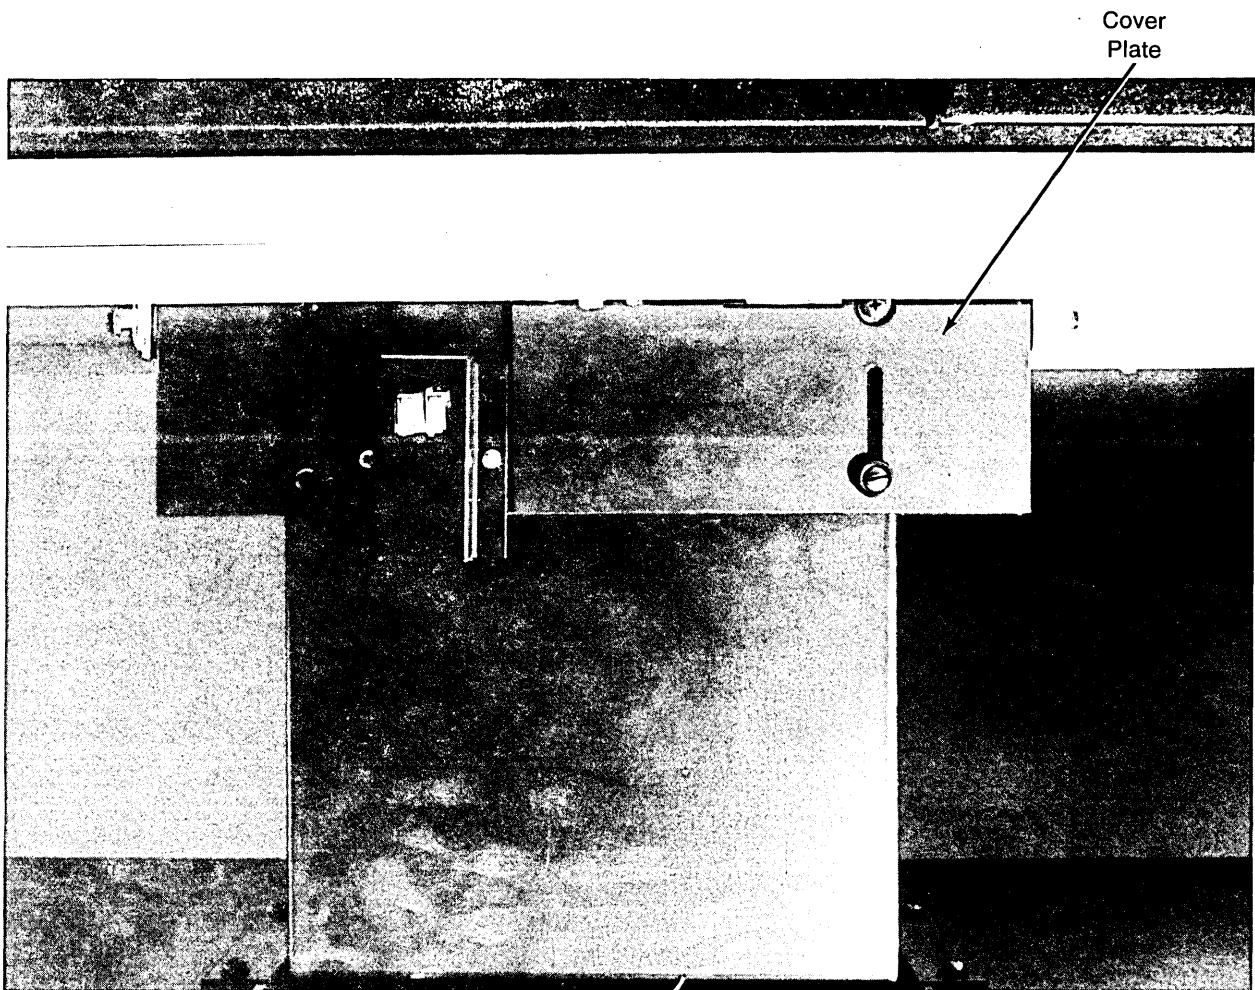

Figure 3-6. Cover Plate in Raised Position
12. Slide cover plate up as far as slot permits (figure 3-6).